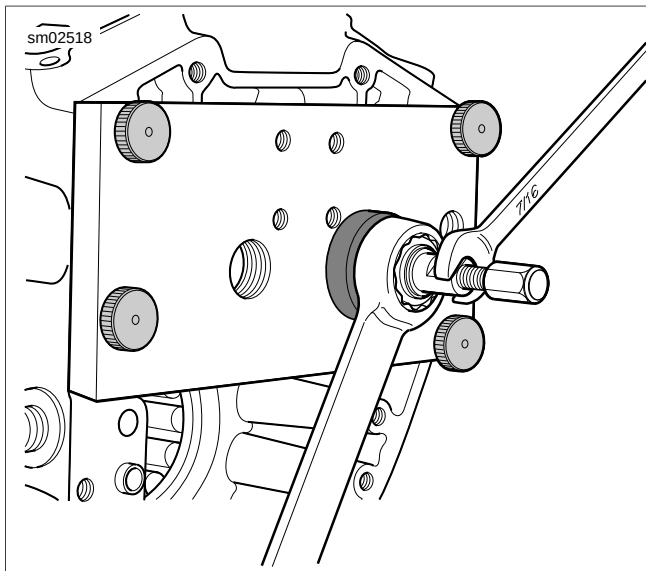

Figure 3-104. Bearing Removal
11. See Figure 3-104. Turn hex nut clockwise until bearing is free. If necessary, hold flat on collet to prevent rotation.